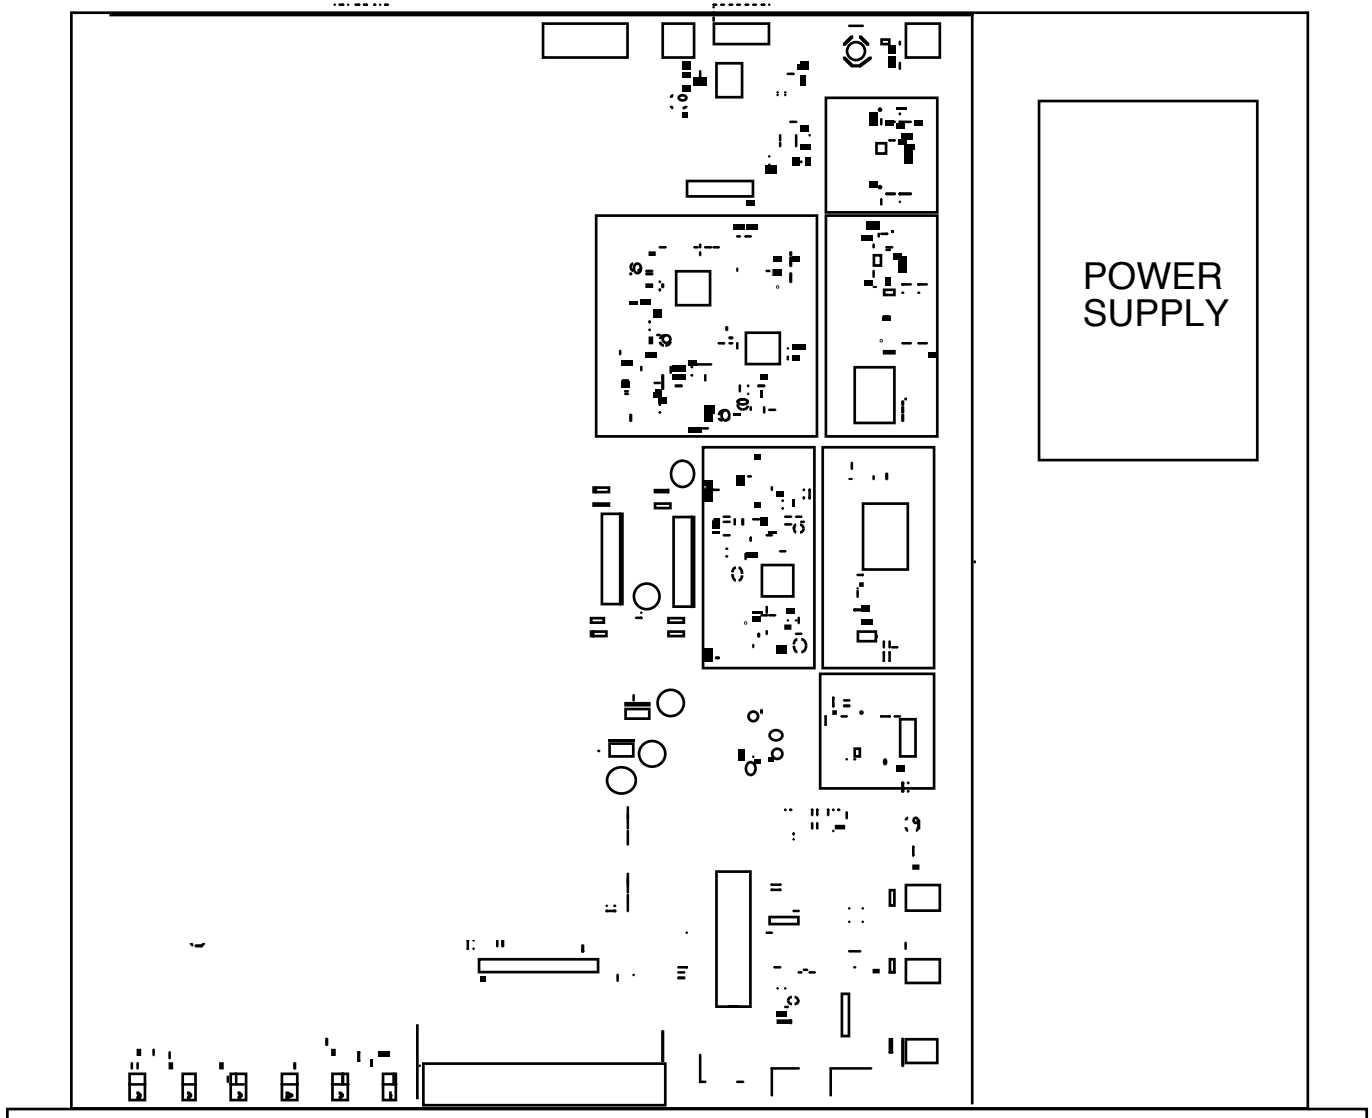

FIGURE 2.1 2083-0514 Mechanical Assembly
2.1 Mechanical - The 2083-0514 consists of one RF/Controller PCB housed in a 1 RU (1 3/4 inch high) by 16 inch deep chassis. A switching, ± 12 , +24, +5 VDC power supply provides power for the assemblies. The 2083-0514 can be secured to a rack using the 4 holes on the front panel. Figure 2.1 shows how the 2083-0514 is assembled.